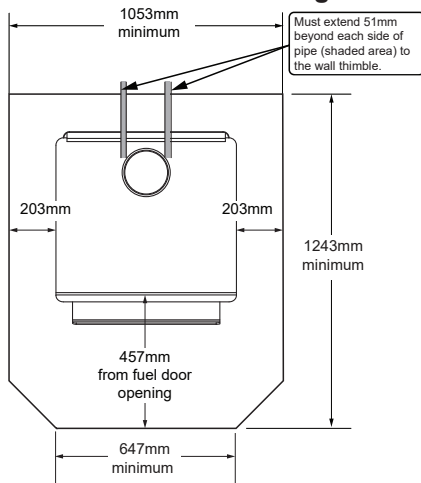

Figure 12.2 - **This dimension will vary depending installation.
In Canada, similar floor protection must be provided 18 inches (457mm) in front and 8 inches (203mm) from the sides and rear of the appliance unless the hearth pad is placed against the wall (**Figure 12.2**). Then the clearance may be reduced using double wall pipe and the **Clearance to Combustibles**.
***Exception:** Non-combustible floor protector must extend beneath the flue pipe when installed with horizontal venting and extend 2 inches (51mm) beyond each side (**Figure 12.2**).